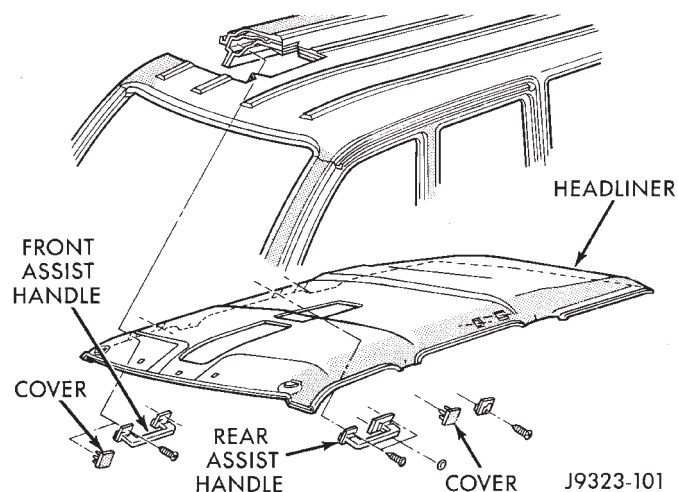

Fig. 25 Assist Handles
- (4) Remove assist handles or plugs from side of roof rails (Fig. 25)
(4) Install assist handles or plugs (Fig. 25).